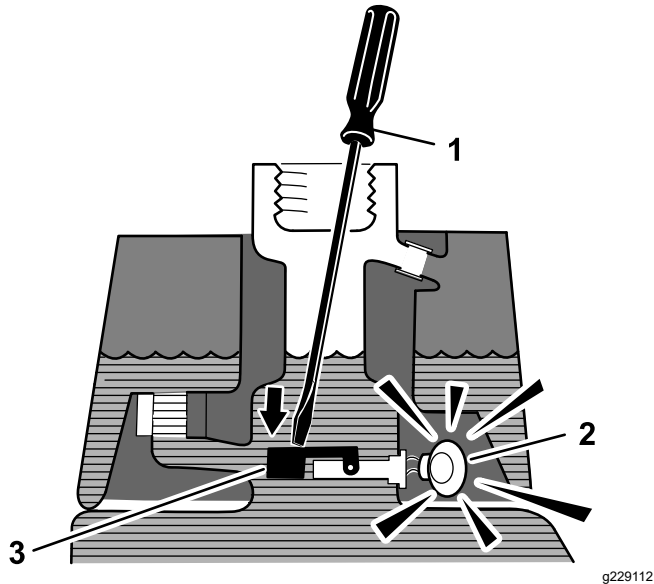

Figure 52
3. Insert a clean rod or screwdriver into the tank neck and gently push down on the float switch (Figure 52); the alarm should sound after the 1-second delay.